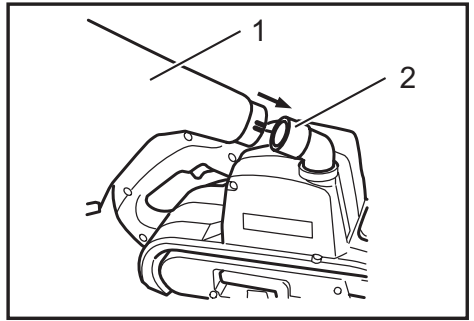

Fig.5
- Fig.5: 1. Dust bag 2. Dust spout